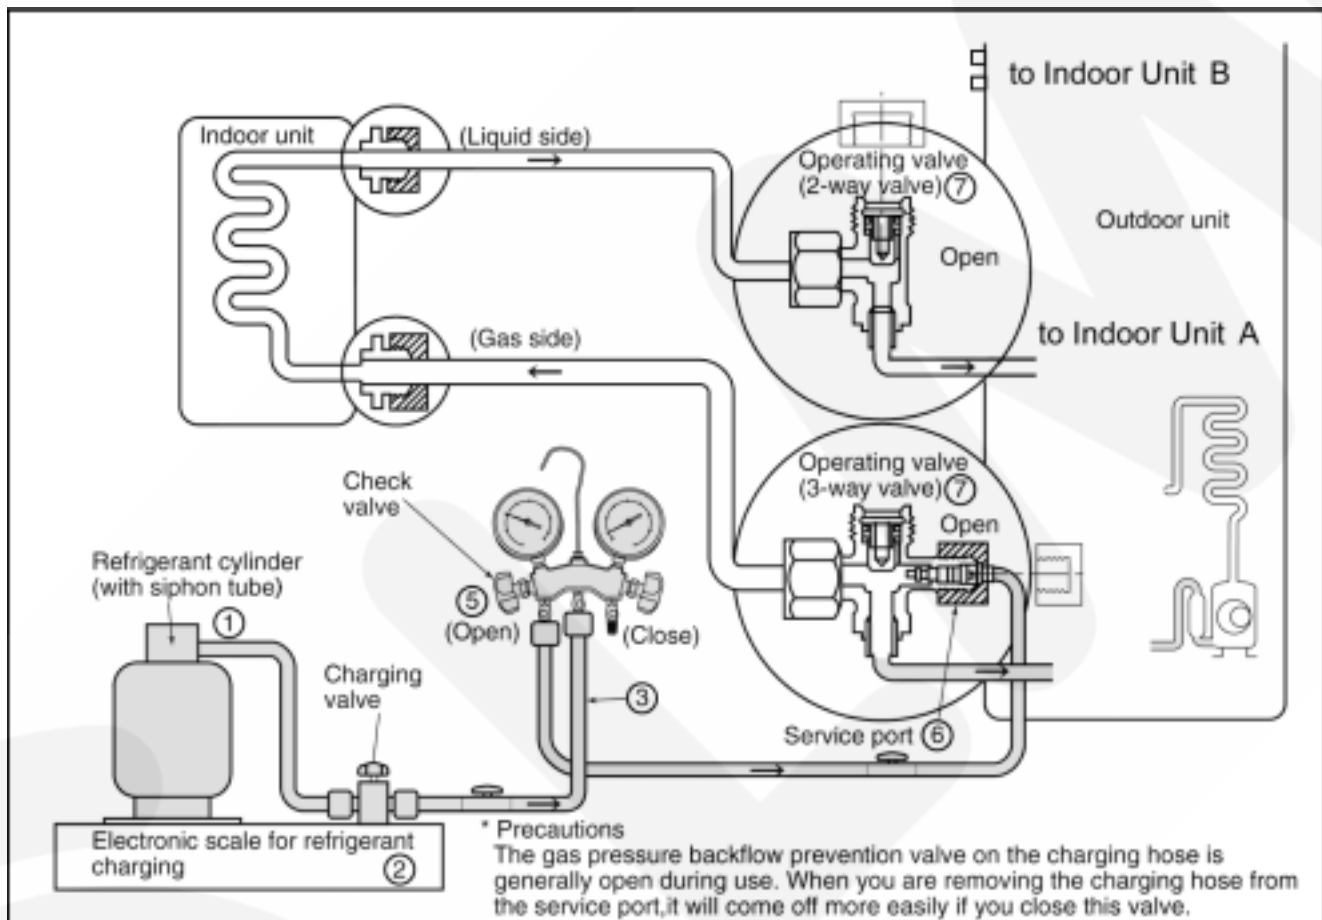

Fig. 13 Re-charging refrigerant
4. Confirm that the low pressure gauge shows a reading of -0.1 Mpa (-76 cmHg), then fully close the handle Lo, and turn off the vacuum pump. Wait for 1-2 minutes, then check to make sure that the needle of the Low pressure gauge has not returned. See Fig. 13 for the remaining steps of this procedure.
5. Set the refrigerant cylinder onto the electronic scale, then correct the hose the cylinder and to the connection port for the electronic scale. (1)(2)